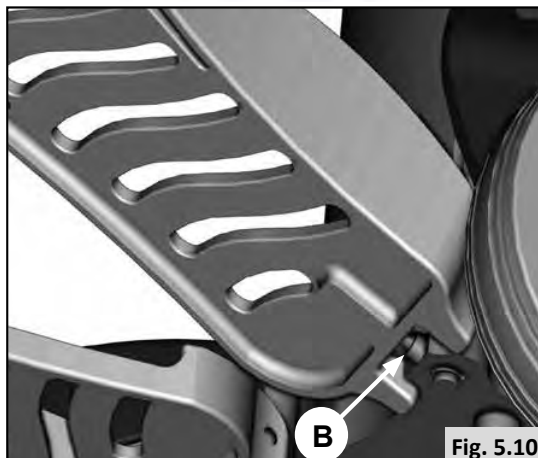

Fig. 5.10
- Flip up the footplate so that you can reach the angle setting screw (B) (Fig.5.10).